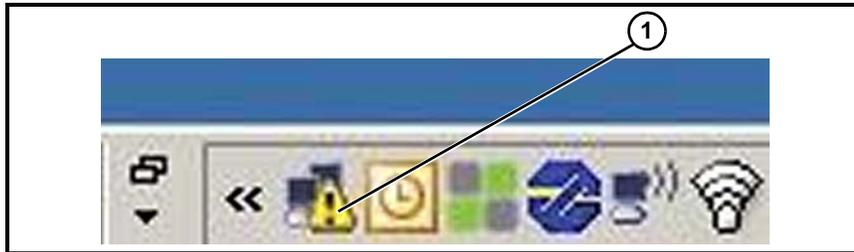

Figure 35
Wait for the drive connection complete icon (**Figure 35, item 1**) to change to the limited functionality icon (this process can take up to one minute).